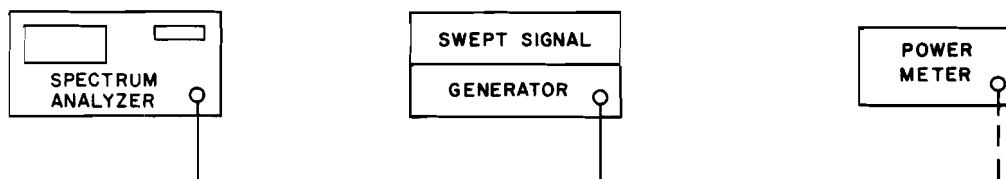

Figure 4-3. Reference Level and Calibration Signal Level Test Set-Up
1. Connect the test set-up as shown in Figure 4-3.